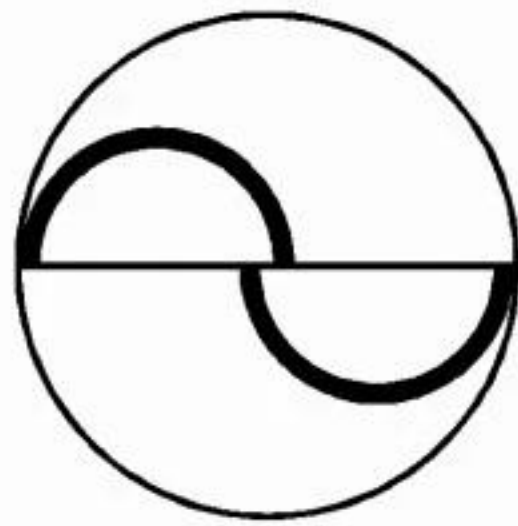

Fig. 4
- B. Fluorescence belt is too wide. It is because the pressure-measuring head is not dry after cleaning or the eyelid touches the head. In this case, the measured intraocular pressure is higher than practical one. Pull backwards the slit lamp, dry the head. Then measure again(Fig. 4).